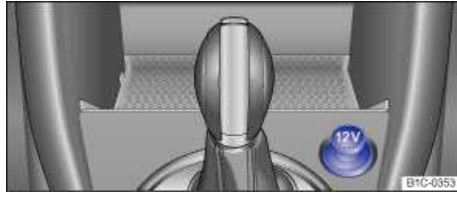

Fig. 109 Front center console: 12 Volt socket.
- In the front and rear center console ⇒ fig. 109.